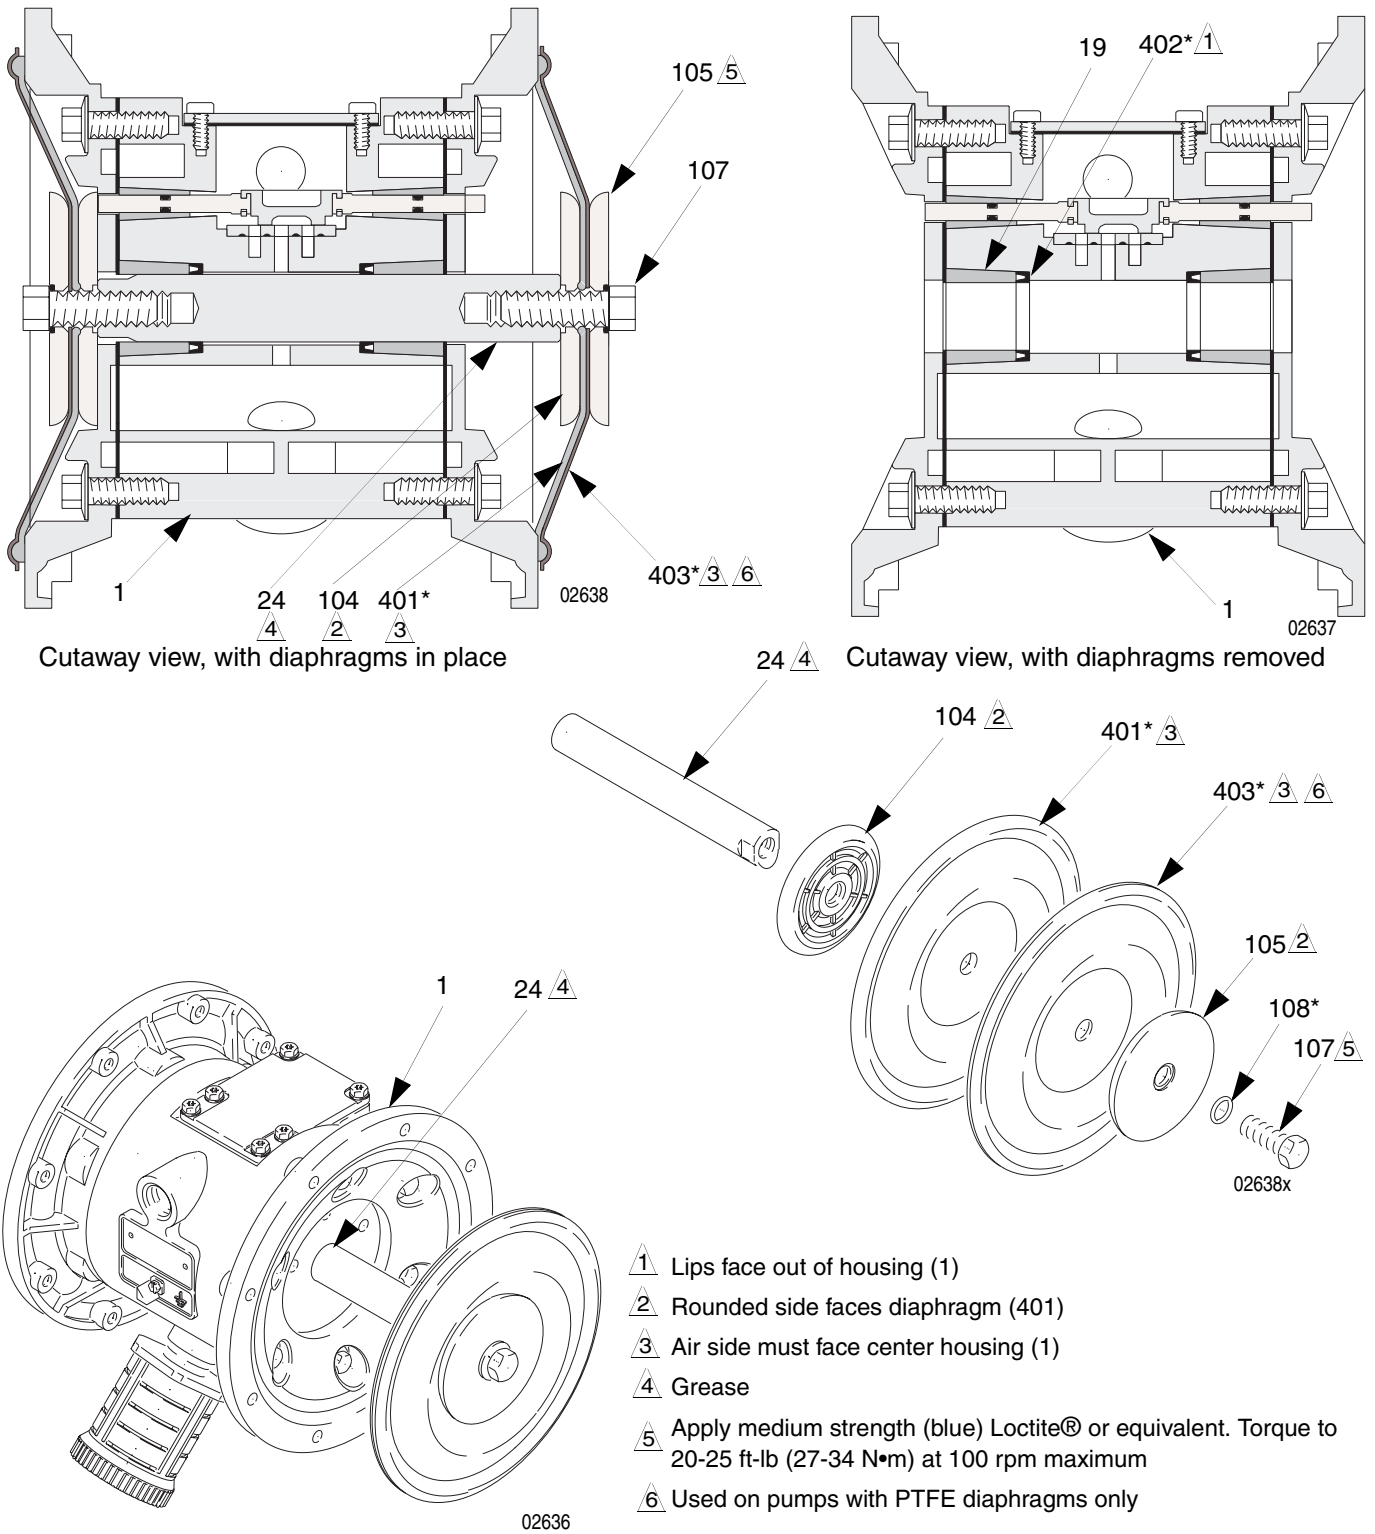
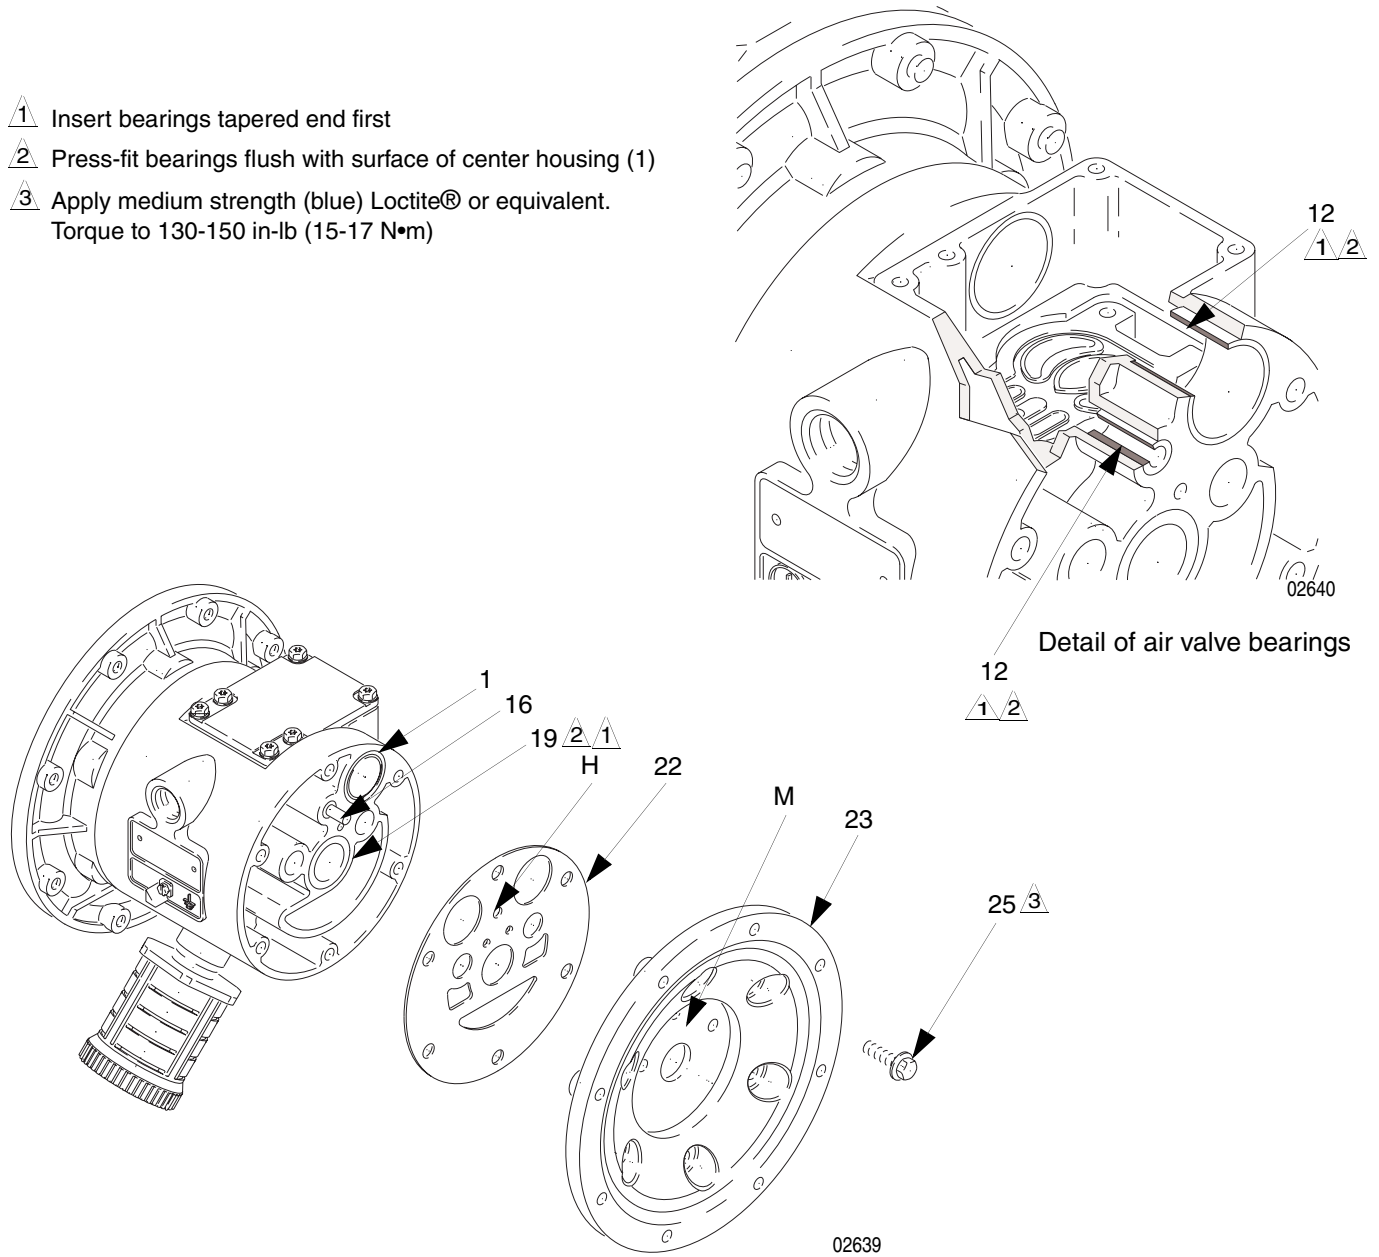

FIG. 11
FIG. 12
5. Unscrew one bolt from the diaphragm shaft (24) and remove the o-ring (108), fluid side diaphragm plate (105), PTFE diaphragm (403, *used on PTFE models only*), diaphragm (401), and air side diaphragm plate (104). See FIG. 11.
6. Pull the other diaphragm assembly and the diaphragm shaft (24) out of the center housing (1). Hold the shaft flats with a 19 mm open end wrench, and remove the bolt (107) from the shaft. Disassemble the remaining diaphragm assembly.
7. Inspect the diaphragm shaft (24) for wear or scratches. If it is damaged, inspect the bearings (19) in place. If the bearings are damaged, refer to page 22.
8. Reach into the center housing (1) with an o-ring pick and hook the u-cup packings (402), then pull them out of the housing. This can be done with the bearings (19) in place.
- c. *On PTFE models only*, install the PTFE diaphragm (403\*). Make certain the side marked AIR SIDE faces the center housing (1).
- d. Install the diaphragm (401\*) on the bolt. Make certain the side marked AIR SIDE faces the center housing (1).
- e. Install the air side diaphragm plate (104) so the rounded side faces the diaphragm (401). This plate is used on all models, and is stamped with its part number.
- f. Apply medium-strength (blue) Loctite® or equivalent to the bolt (107) threads. Screw the bolt into the shaft (24) hand tight.
1. Install the shaft u-cup packings (402\*) so the lips face **out** of the housing (1). Lubricate the packings. See FIG. 11.
2. Install the diaphragm assembly on one end of the shaft (24) as follows:
- a. Install the o-ring (108\*) on the shaft bolt (107).
- b. Install the fluid side diaphragm plate (105) on the bolt so the rounded side faces the diaphragm (401).
5. Using a 10 mm socket wrench, remove the screws (25) holding the air covers (23) to the center housing (1). See FIG. 12.
6. Remove the air cover gaskets (22). Always replace the gaskets with new ones.
7. Use a bearing puller to remove the diaphragm shaft bearings (19), air valve bearings (12) or pilot pin bearings (15). Do not remove undamaged bearings.
8. If you removed the diaphragm shaft bearings (19) reach into the center housing (1) with an o-ring pick and hook the u-cup packings (402), then pull them out of the housing. Inspect the packings. See FIG. 11.
1. If removed, install the shaft u-cup packings (402\*) so the lips face **out** of the housing (1).
2. The bearings (12, 15, and 19) are tapered and can only be installed one way. Insert the bearings into the center housing (1), **tapered end first**. Using a press or a block and rubber mallet, press-fit the bearing so it is flush with the surface of the center housing.
4. Align the new air cover gasket (22) so the pilot pin (16) protruding from the center housing (1) fits through the proper hole (H) in the gasket.
5. Align the air cover (23) so the pilot pin (16) fits in the middle hole (M) of the three small holes near the center of the cover. Install the screws (25), handtight. Apply medium-strength (blue) Loctite® or equivalent to the threads of the screws (25). See FIG. 12. Using a 10 mm socket wrench, torque the screws oppositely and evenly to 130-150 in-lb (15-17 N•m).
- 2 Press-fit bearings flush with surface of center housing (1)